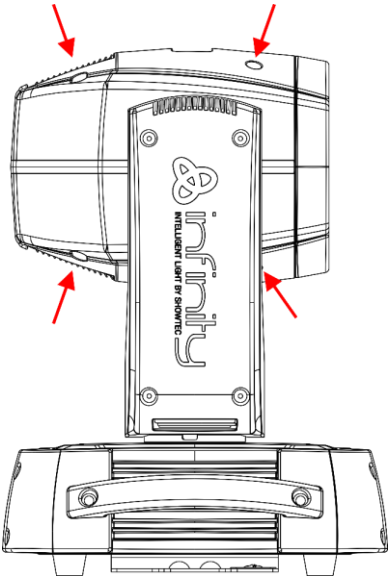

Fig. 03
- 01) Loosen the 8 screws on both sides of the housing and remove both covers (fig. 03).
- 07) Replace the lamp covers and snugly fasten the previously removed 8 screws (fig. 03).